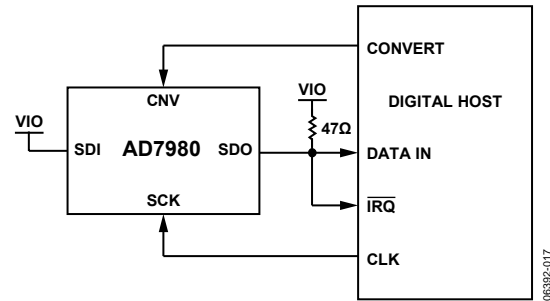
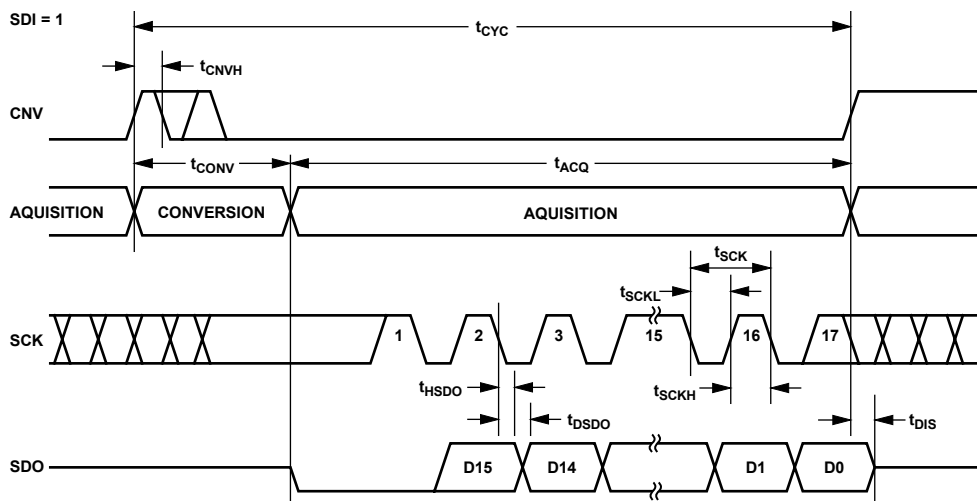
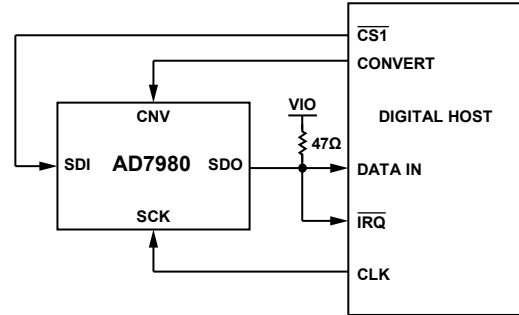
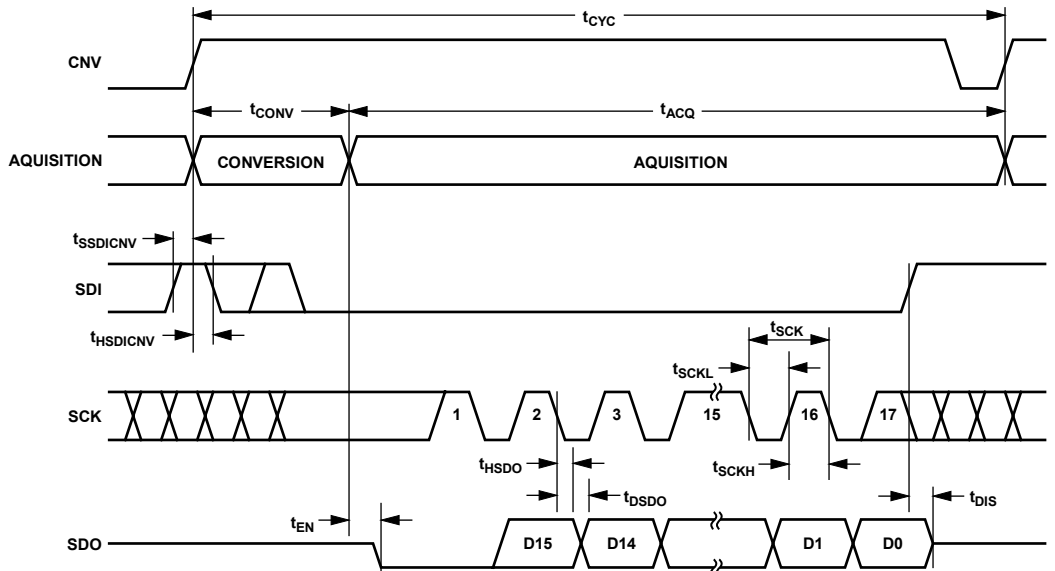

Figure 33. 3-Wire  $\overline{\text{CS}}$  Mode with Busy Indicator Connection Diagram (SDI High)
Figure 34. 3-Wire  $\overline{\text{CS}}$  Mode with Busy Indicator Serial Interface Timing (SDI High)
Figure 37. 4-Wire CS Mode with Busy Indicator Connection Diagram
Figure 38. 4-Wire CS Mode with Busy Indicator Serial Interface Timing
- In the  $\overline{\text{CS}}$  mode if CNV or SDI is low when the ADC conversion ends (see Figure 34 and Figure 38).
The connection diagram is shown in Figure 33, and the corresponding timing is given in Figure 34.
The connection diagram is shown in Figure 37, and the corresponding timing is given in Figure 38.